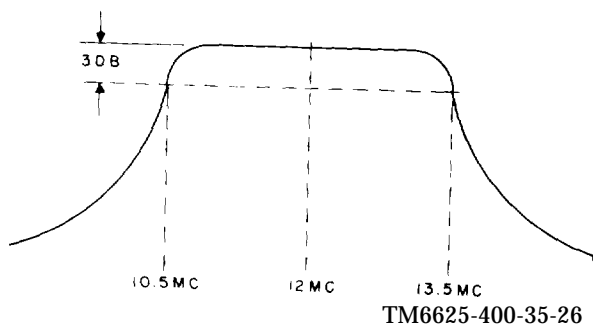

Figure 24. If. amplifier response,
Whenever repairs are made to circuitry involving V2, V3, V4, V5, and V6, the alignment of the if. amplifiers s h o u l d be checked. The response curve should resemble that shown in figure 24. If the response curve is not the proper configuration, the if. amplifier will need alignment. Check and align the if. amplifier as follows :
i. If the response curve does not resemble closely that shown in figure 24, adjust the trimmers of T6, T5, T4, T3, T2, and T1 in that order.
e. If the response does not resemble closely that shown in figure 24, adjust trimmers of T7 and T6 to obtain the proper curve. Adjust T7 first, and work toward the if. amplifiers.